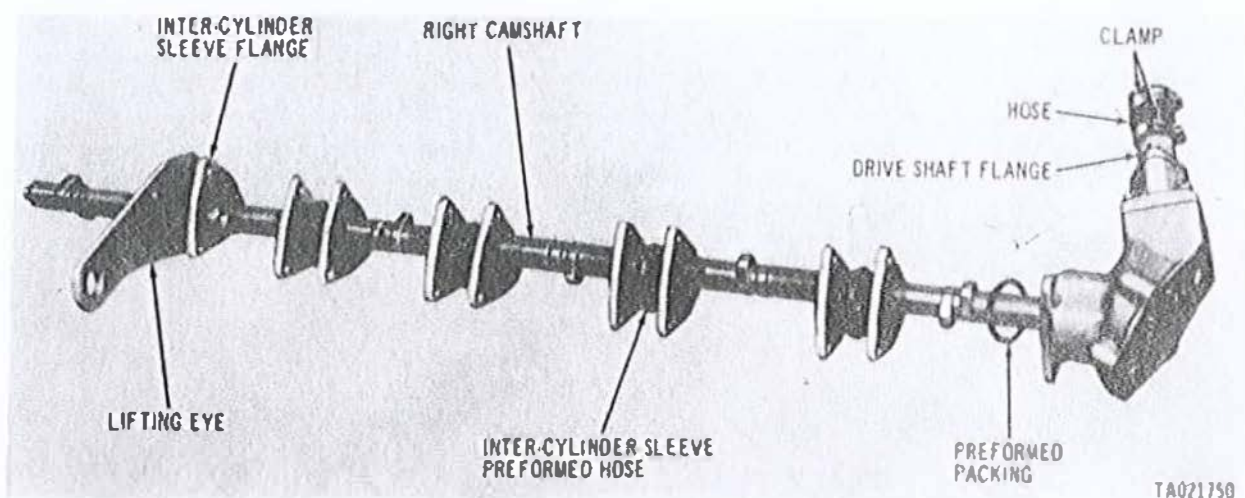

Figure 3-256. Removing or installing lifting eye, intercylinder base flanges, and hoses, model AVDS-1790-2C and AVDS-1790-2D engine.
a. Remove lifting eye (fig. 3-256), preformed hose and intercylinder hose flange, and separate the lifting eye and flange from hose.